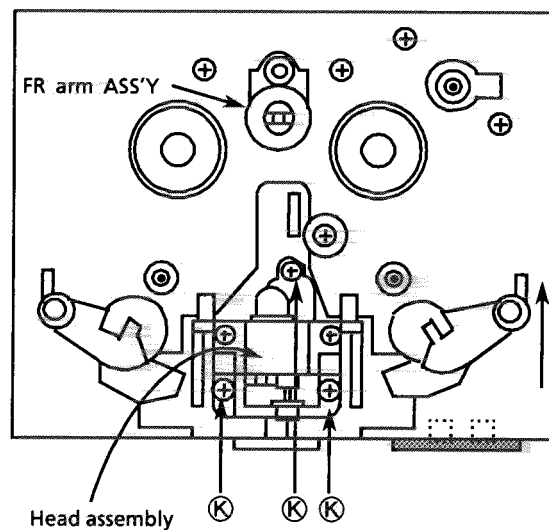

Fig 20 Cassette mechanism top view
3. Remove the 3 screws ⑥ holding the Cassette control PCB. (Fig.20)